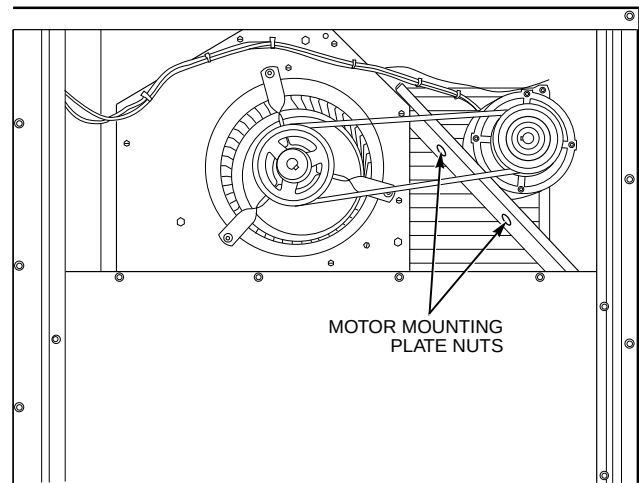

Fig. 24 — Typical Belt-Drive Motor Mounting for Size 008 and 009
2. Loosen belt by loosening fan motor mounting nuts. See Fig. 24 and 25.
2. *Sizes 008 and 009* — Slide motor mounting plate away from fan scroll for proper belt tension (13 mm [$\frac{1}{2}$ -in.] deflection with one finger) and tighten mounting nuts (see Fig. 24).